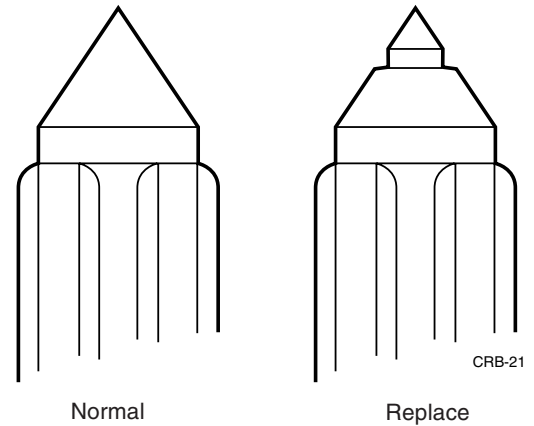

Figure 3.14 Inlet needle
- Inspect the inlet needle for signs of wear and replace if you discover measurable wear (Figure 3.14).